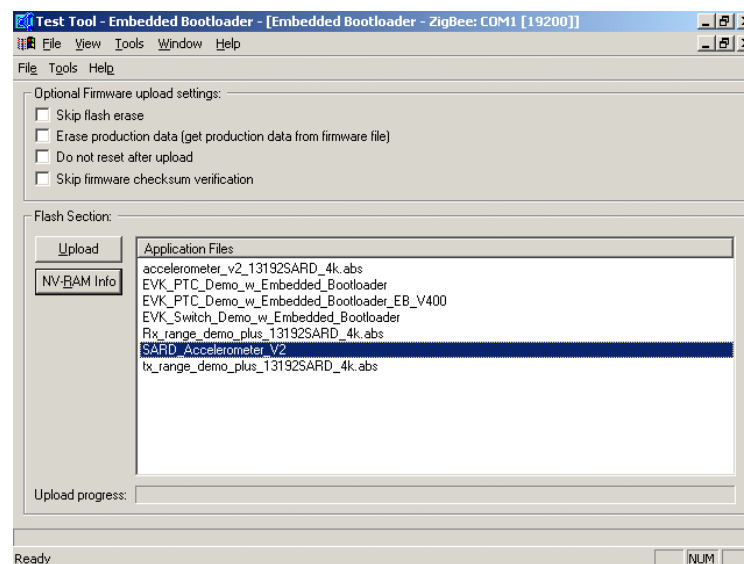

Figure 13 Test Tool Window (Bootloader Application Select)
10. As shown in Figure 13, select the application you want to flash program from the “Application Files” menu and click on the “Upload” button.